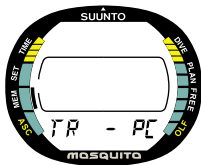

Fig. 5.11. Data Transfer and PC-Interface
1. In the Memory Mode [MEM], press **S** three (3) times to select the Data Transfer Mode. The TR-PC text appears at the bottom of the display to indicate the selected mode (Fig. 5.11.).